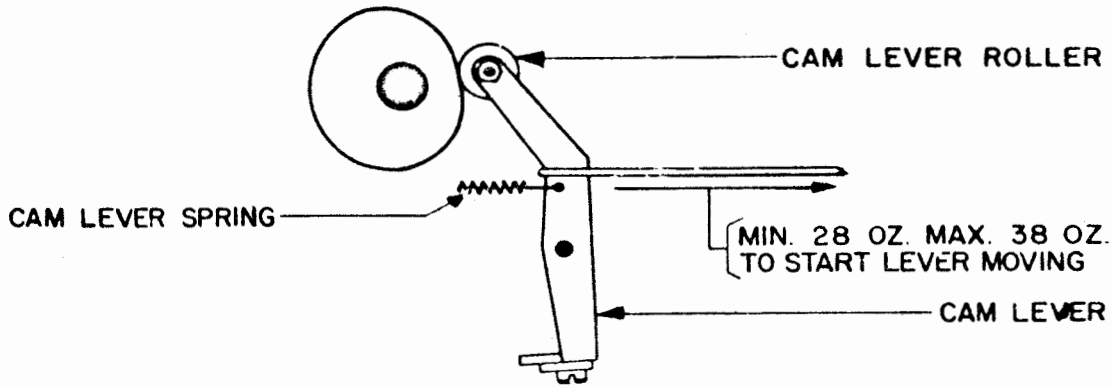

Figure 8
3.09 Cam-lever Spring: It should require minimum 28 ounces, maximum 38 ounces to move the cam lever. (See Figure 8.)